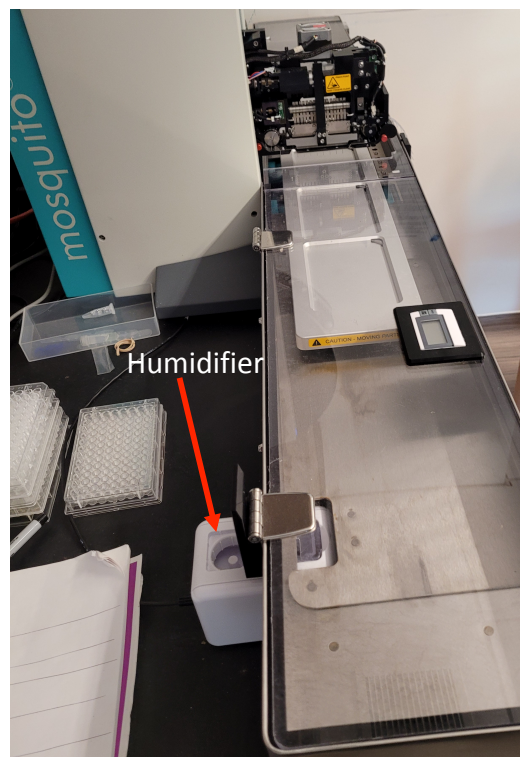

Figure 1. Humidifier
1. Check the two humidifiers to ensure there is water in them. One is located on the left-hand side of the instrument platform (Fig. 1) and the other is on the right side. If they are empty, use a squirt bottle to fill them with dl water.
10. You can start the run by clicking the “Run” button on the bottom left of the “Protocol” tab. Make sure you see humidity vapors once the instrument starts running. If you don’t see any, the chambers (Figure 1) might be in need of water, so you should fill them immediately (you can do so while the instrument is running). You should also watch to make sure the tips don’t jam into your screening plate, your reservoir plate, or your cover. If they do, please indicate this in the logbook.